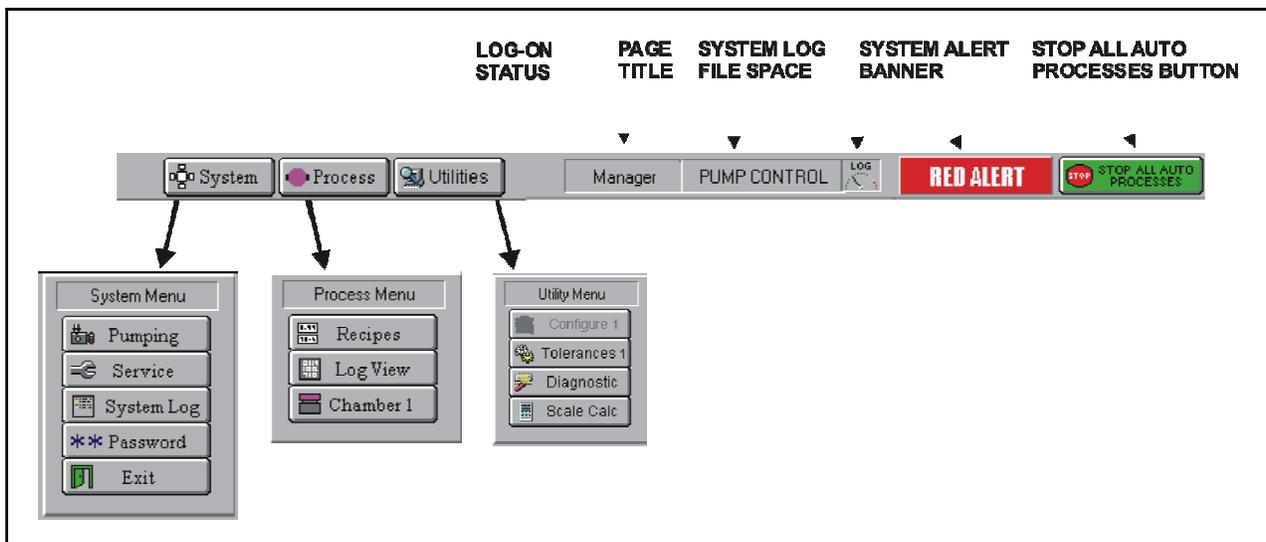

Fig. 1 Menu bar
The control software of Oxford-C system is called PC2000. This software is running 24/7 and is not allowed to quit normally by the regular users. The PC2000 facilities are accessed from the menu bar at the top of the screen as shown in Fig. 1. For regular users, only “System->Pumping”, “System->Password” and the items in “Process” menu are accessible. The current user account name and the current page name are shown in the middle of the menu bar. The “Stop” icon at the right end of the menu bar is a software EMO (Emergency Mains Off) button. Once clicked, the running process will be stopped and the machine will be reset. Only the tool manager can unlock the tool after an EMO is initiated.
- i. Log in and log off operation can be performed in “Access Control” window (Fig.2), which pops-up after “System->Password” is selected or the “LOG-ON STATUS” area is clicked (see Fig.1 for the location).